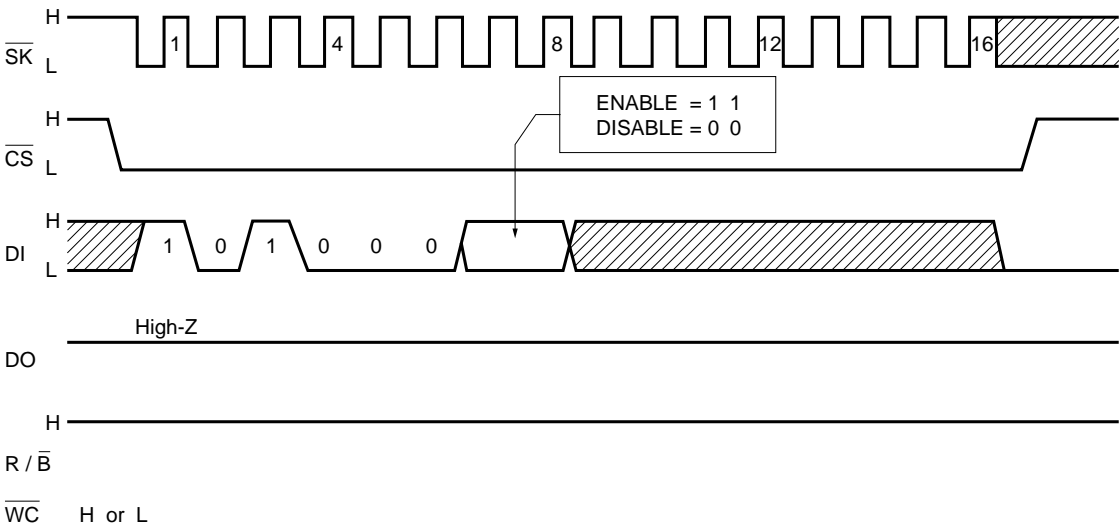

Fig.1
1) After the fall of the 16th clock pulse, 16-bit data is output from the DO pin in synchronization with the falling edge of the  $\overline{SK}$  signal. (DO output changes at a time lag of  $t_{PD0}$ ,  $t_{PD1}$  because of internal circuit delay following the falling edge of the  $\overline{SK}$  signal. During the  $t_{PD0}$  and  $t_{PD1}$  timing, the  $t_{PD}$  time should be assured before data is read, to avoid the previous data being lost. See the synchronized data input / output timing chart in Fig. 1.)